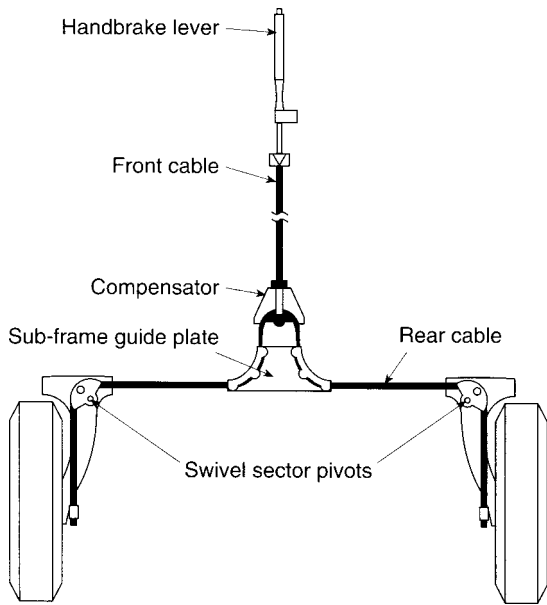

Fig. 7.7 A handbrake system
The handbrake (parking brake) is required to hold the vehicle in any chosen position when the vehicle is stationary. In addition to its function as a parking brake, the handbrake is also used when making hill starts and similar manoeuvres. The handbrake also serves as an emergency brake in the event of failure of the main braking system. Figure 7.7 shows the layout and main features of a handbrake for a car or light van. The vehicle has trailing arm rear suspension and the swivel sector pivots (4) are needed to guide the cable on these suspension arms. The purpose of the compensator is ensure that equal braking force is applied to each side of the vehicle. The